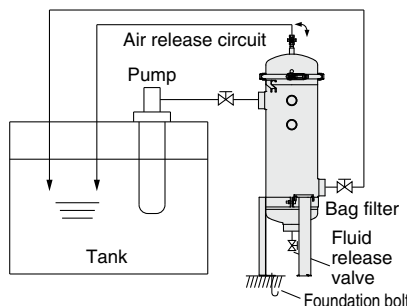

Fig. 1 Example of cyclical filtration circuit
1. Use the product with a circuit having lesser fluctuation to the filter caused by pressure or flow. (Refer to Fig. 1.)